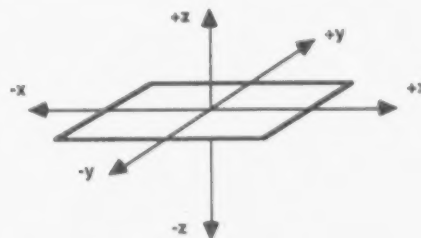

Figure 7 - NC Coordinate System
2. Second, familiarize yourself with the machine tool coordinate system for NC prior to starting. The two axes, x and y are defined in the plane table, and the z axis is perpendicular to this plane. Movement in the z direction is controlled by vertical motion of the spindle, as shown in Figure 7.